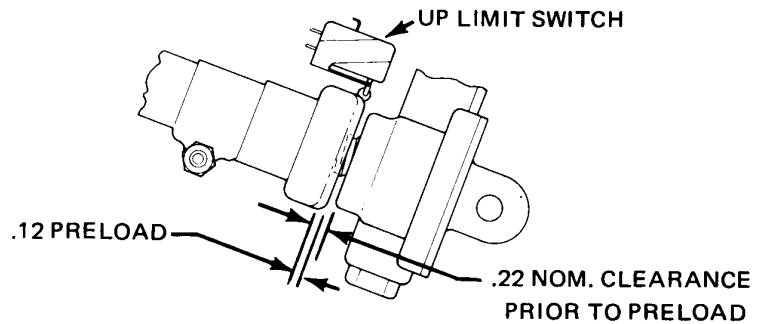

Figure 21-14. Condenser Air Scoop Installation
2. Place the condenser and frame assembly to the fuselage frame mounting bracket and insert the (8) screws into the piano hinge.
6. Seal all around forward cover panel (and aft cover panel if removed) with Permagum Bead No. 576 purchased from Prestolite Engineering Company. (See Figure 21-14.)
The actuator is on a bracket mounted between two bulkheads in the tail cone. It is coupled to the condenser assembly through a bellcrank mounted to a bracket on the bulkhead aft of the condenser. The actuator travel is controlled by two limit switches. Both the up and down switches are located on the actuator. Refer to Figure 21-14 for the switch locations.
CONDENSER ASSEMBLY RIGGING INSTRUCTIONS. (Refer to Figure 21-14.)
3. With the door fully closed adjust the "CLOSED" limit switch so that the actuator travels an additional .12 of an inch after the door is fully closed, this is necessary to preload the mechanism. (Refer to Figure 21-14, View A-A.)